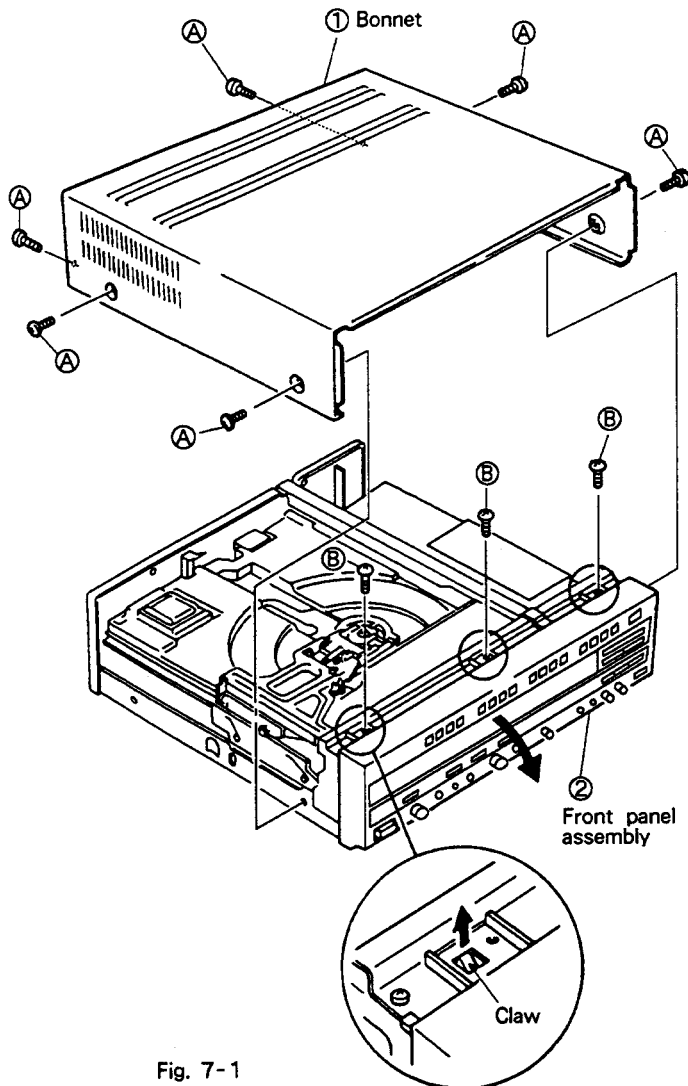
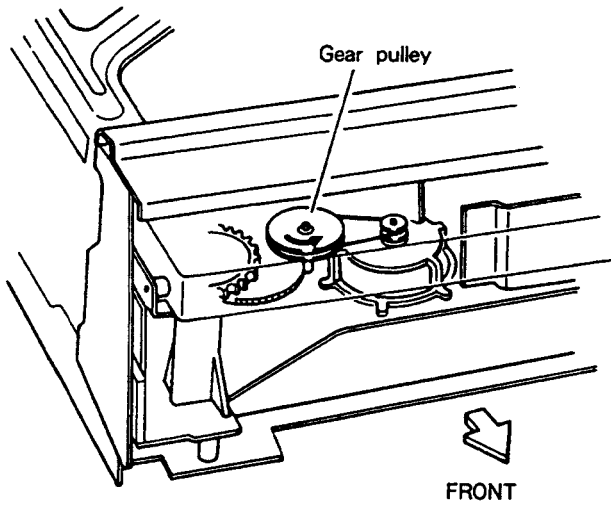

Fig. 7-1
Fig. 7-4
- ② When the power cannot be turned ON, remove the front panel (Fig. 7-1), and turn the gear pulley shown in Fig. 7-4 counterclockwise, and the tray will slide out toward the front.